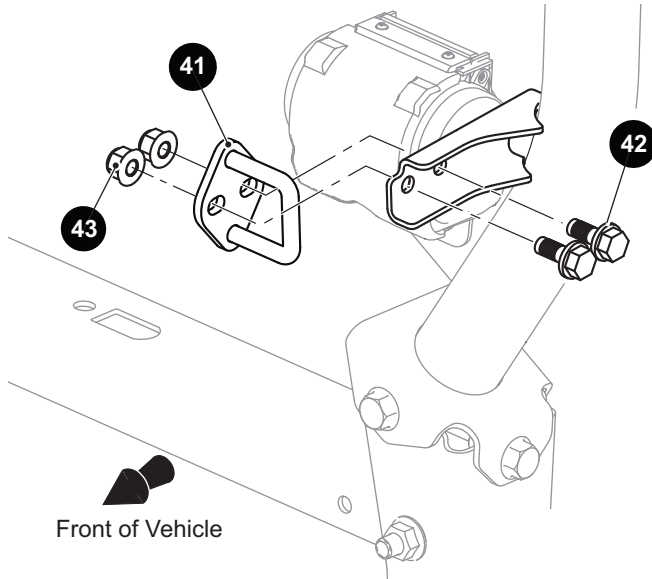

Fig. 11 Striker Plate
1. Remove the bolts (42) and nuts (43) that secure the striker plate (41) to the ROPS tube (See Fig. 11).